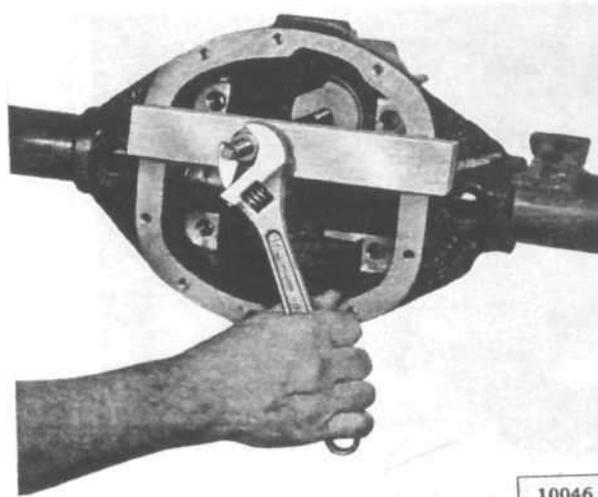
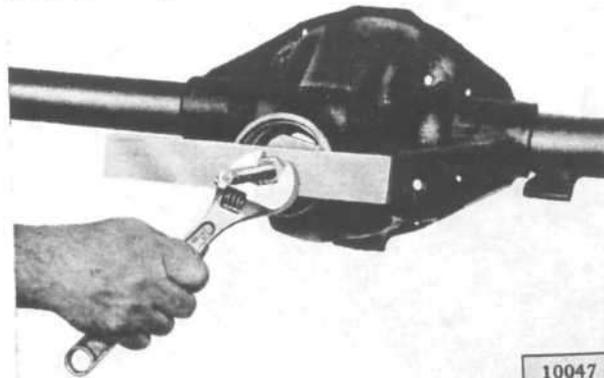

FIG. 249—PULLING PINION SHAFT REAR BEARING CUP
FIG. 250—PULLING PINION SHAFT FRONT BEARING CUP
l. Remove the pinion shaft bearing cone and rollers. Remove the pinion shaft bearing cups with a puller, Tool W-100. With the basic W-100 puller, use adapter W-100-4 for pulling the rear bearing cup (Fig. 249) and adapter W-100-6 for pulling the front bearing cup (Fig. 250). The puller and the adapters are a part of gauge set W-99-A.